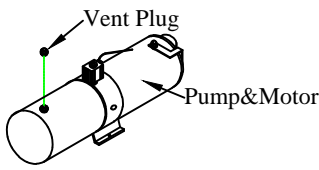

Figure 18: Vent plug.
2. **Unscrew** the solid plastic plug from the pump reservoir and **Install** the vent plug provided (Figure 18).